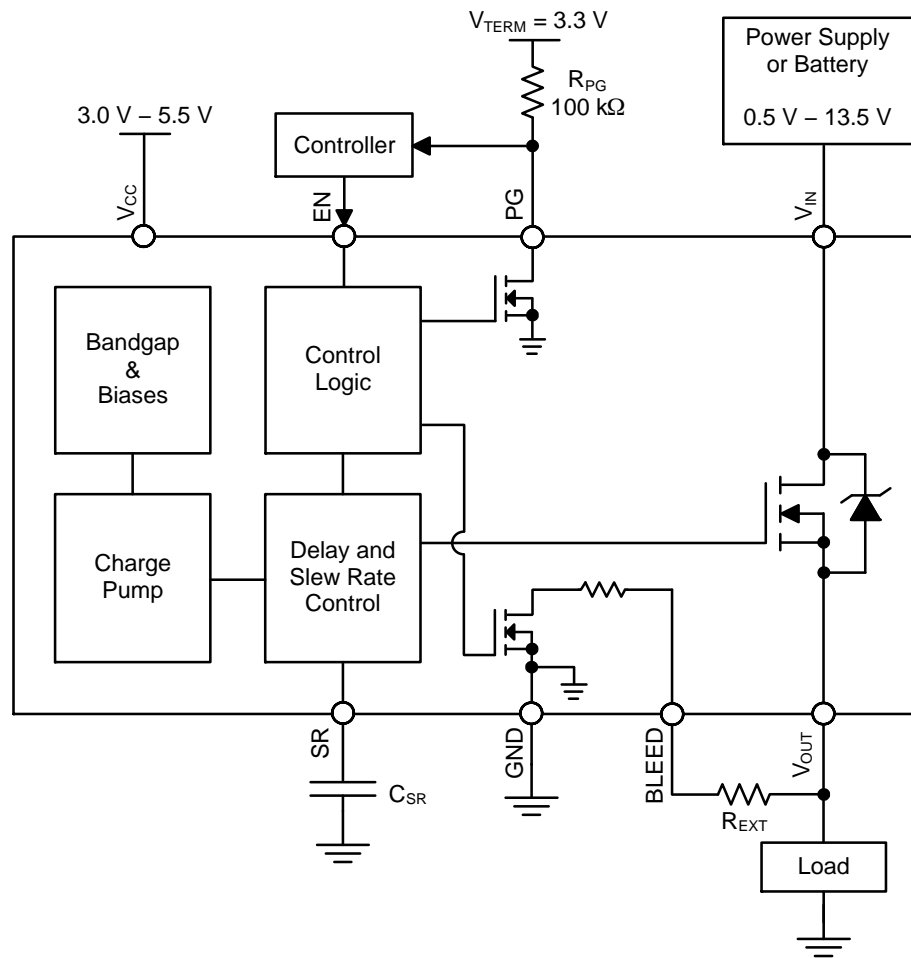
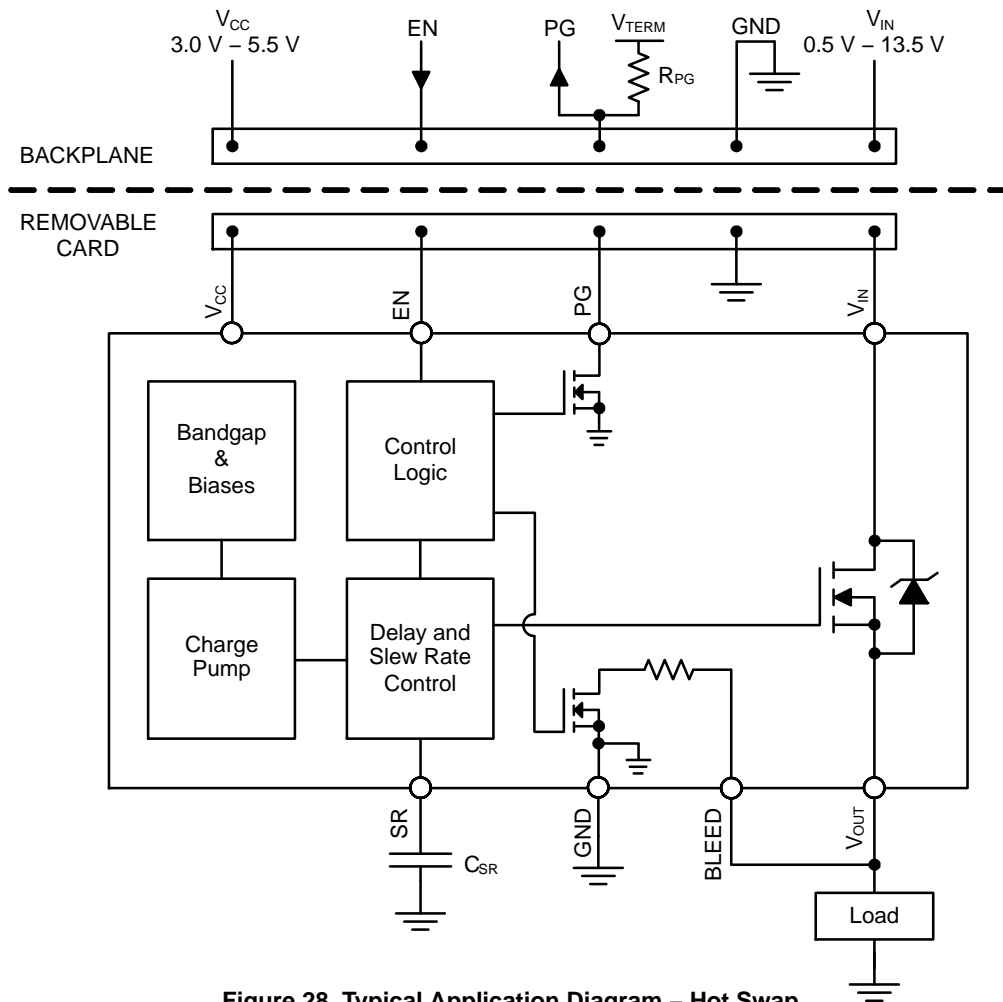

Figure 27. Typical Application Diagram – Load Switch
Figure 28. Typical Application Diagram – Hot Swap
It is required that the BLEED pin be connected to V_{OUT} either directly (as shown in Figure 28) or through an external resistor, R_{EXT} (as shown in Figure 27). R_{EXT} should not exceed 100 M Ω and can be used to increase the total bleed resistance and decrease the load bleed rate.
The NCP45541 devices have a power good output (PG) that can be used to indicate when the gate of the MOSFET is fully charged. The PG pin is an active–high, open–drain output that requires an external pull up resistor, R_{PG} , greater than or equal to 1 k Ω to an external voltage source, V_{TERM} , compatible with input levels of other devices connected to this pin (as shown in Figures 27 and 28).
The slew rate can be decreased with an external capacitor added between the SR pin and ground (as shown in Figures 27 and 28). With an external capacitor present, the slew rate can be determined by the following equation: